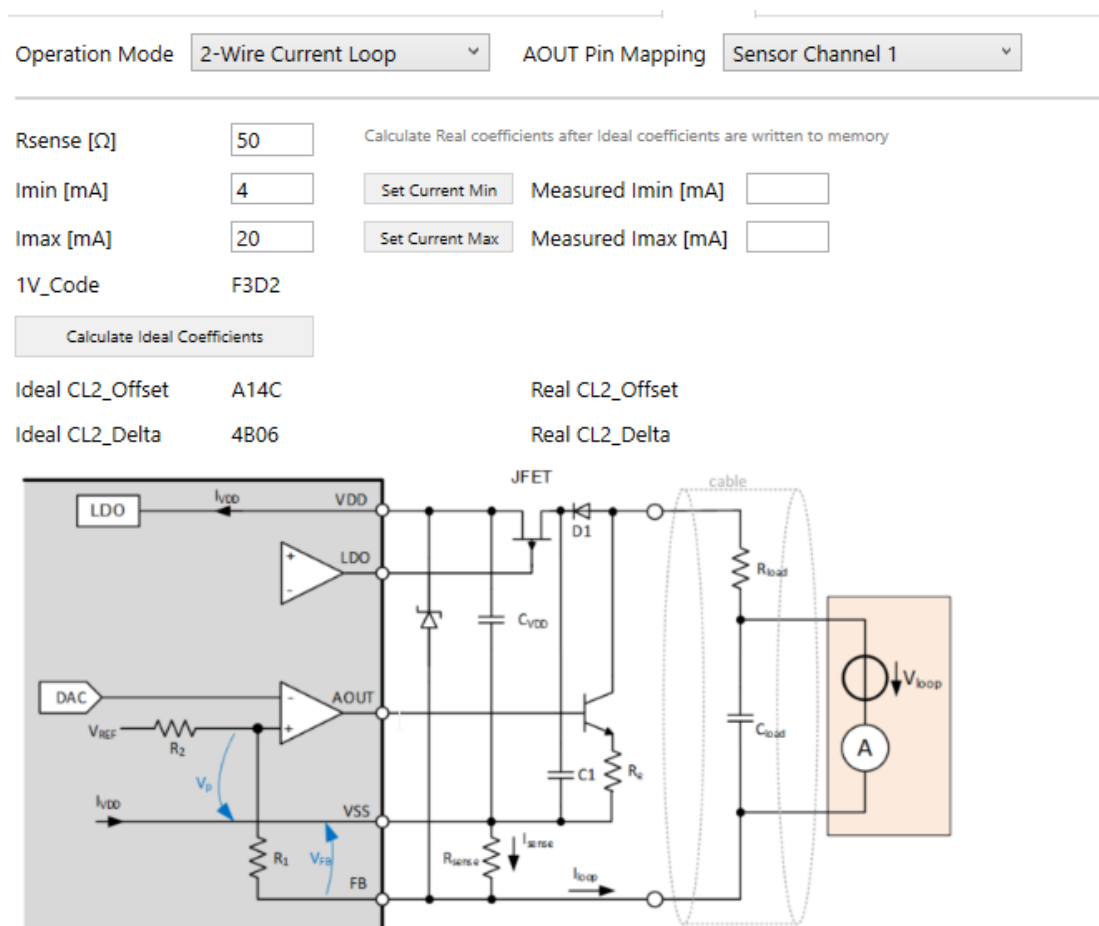

Figure 134. 2-Wire Current Loop Calibration
2. Click the 'Calculate Ideal Coefficients' button (see Figure 134).